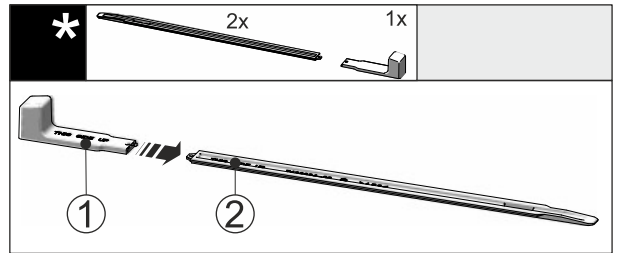

Fig. 43
- ▶ Insert the mounting handle Fig. 43 (1) into the leveling rail Fig. 43 (2).